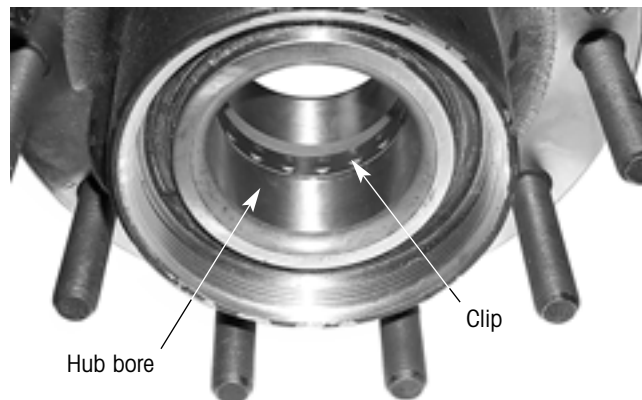

Figure 10. Avoid dislodging the clip inside the hub bore
**⚠ CAUTION:** Remove the wheel nuts to remove the tire/wheel assembly. Do not remove the inner and outer spindle nuts and then attempt to remove the tire/wheel assembly, brake drum and hub as an entire assembly. The clip inside the hub bore (figure 10) can dislodge, causing the hub to disassemble. Damage to components can result.
**⚠ WARNING:** WHEN REMOVING THE HUB ASSEMBLY FROM THE AXLE SPINDLE IN THE FOLLOWING STEP, CAREFULLY PULL THE HUB OFF THE SPINDLE AS STRAIGHT AS POSSIBLE TO AVOID DISLODGING THE CLIP INSIDE THE HUB BORE (FIGURE 10). IF THE CLIP BECOMES DISLODGED, THE HUB WILL DISASSEMBLE, WHICH CAN CONTAMINATE THE LUBRICANT AND VOID THE WARRANTY. DAMAGE TO COMPONENTS CAN RESULT.
**⚠ CAUTION:** When installing the hub assembly onto the spindle in the following step, align the hub bore straight onto the spindle to avoid dislodging the clip inside the hub bore (figure 10). If the clip becomes dislodged, the hub will disassemble, which can contaminate the lubricant and void the warranty.